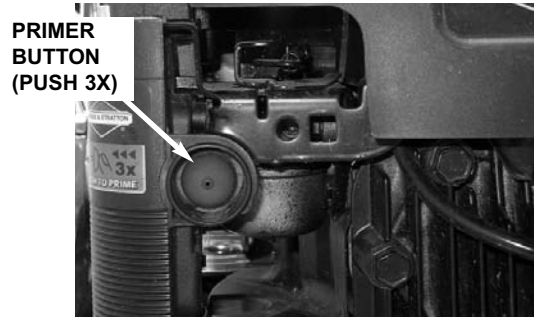

FIGURE 2.3
**1.** Push primer button three times to start a cold engine. See Figure 2.3. **NOTE:** The primer should not be required to restart a warm engine.